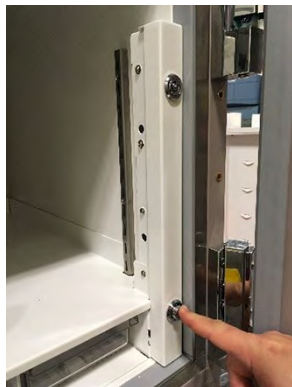

Figure 5
10. Push the locks in to lock the cover (*Figure 5*) and close the refrigerator door.